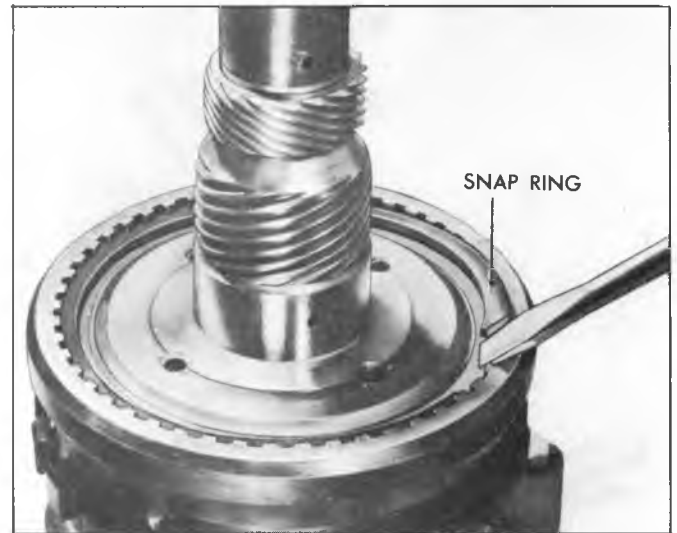

Fig. 43T--Removing Output Shaft to Carrier Snap Ring
10. Remove output shaft to output carrier snap ring (fig. 43T).
12. Remove output shaft to rear internal gear thrust bearing and two (2) races.